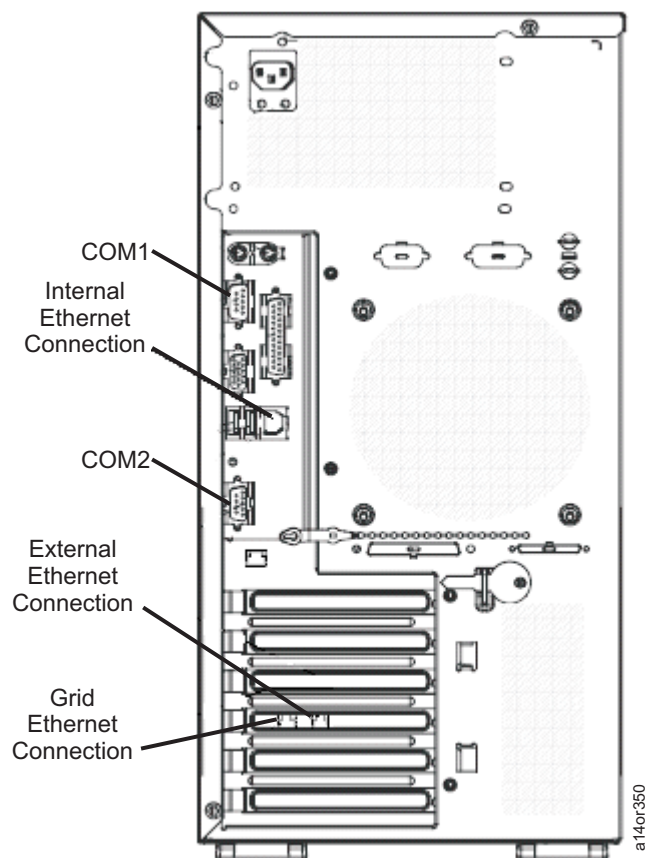
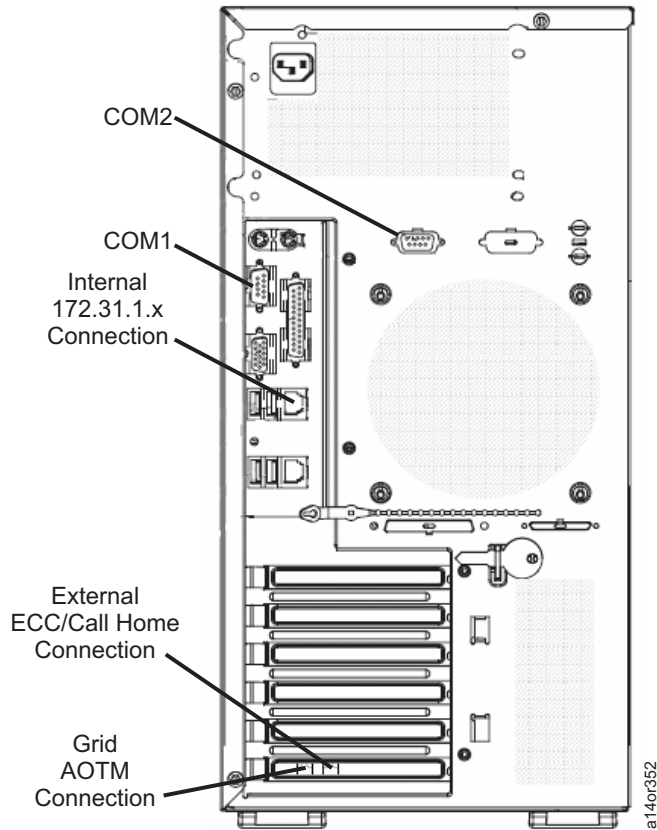

Figure 2-6. Network Connection Diagram – 8482, 8485 (FC 2719, FC 2720)
Figure 2-7. Network Connection Diagram – 4362 (FC 2719, FC 2720)
- Use Figure 2-6 on page 2-6 and Figure 2-7 on page 2-7 to guide you as you attach cables to the COM connectors.
- For machine type 8482, 8485, xSeries 206, and xSeries 206M, the upper serial port (closest to the power cord) is COM1. The lower serial port is COM2. See Figure 2-6 on page 2-6
- For machine type 4362, xSeries 3200, the serial port directly above the video connector is COM1. The COM2 connector is the serial port that is located to the right of these connectors and above the fan. See Figure 2-7 on page 2-7 for location.
- 2) Reset the switches to the down (D) position on the modem, as follows: